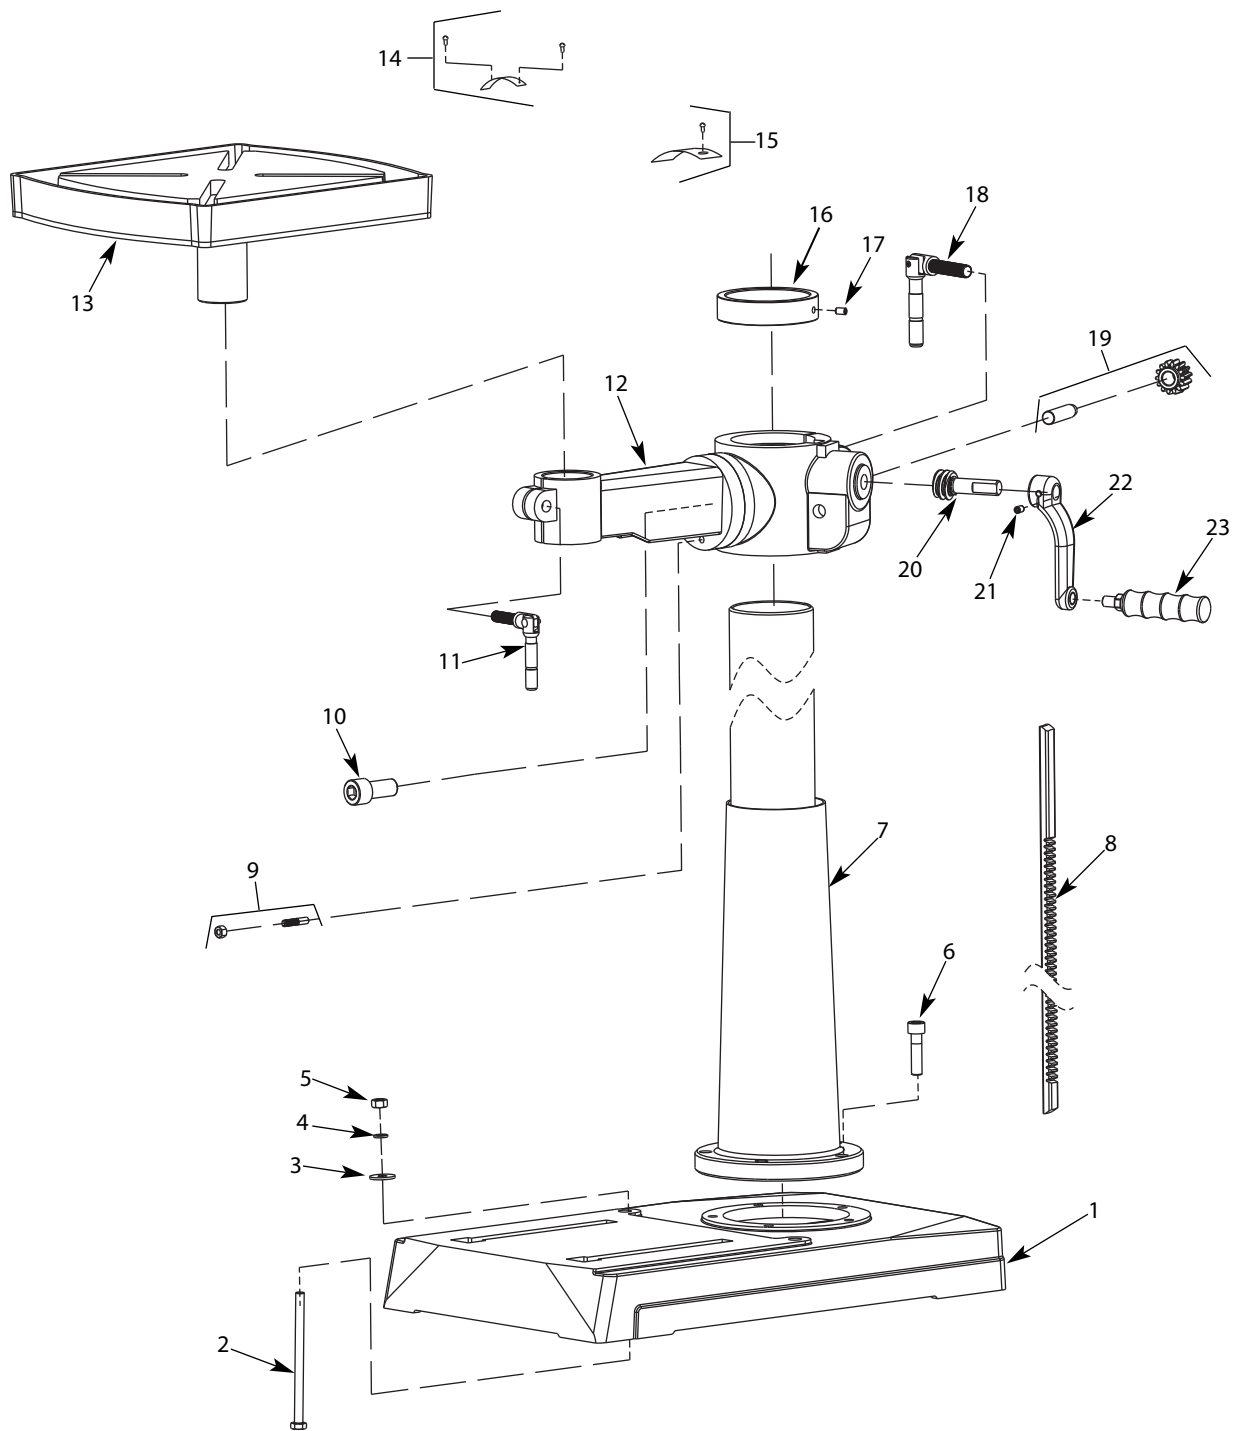

Figure 7 - Replacement Parts Illustration for Base
Refer to Figure 7.
Refer to Figures 7 and 8.
- Apply lubricant to rack and pinion gear (Figure 7, Ref. Nos. 8 and 19) on column and table assembly.